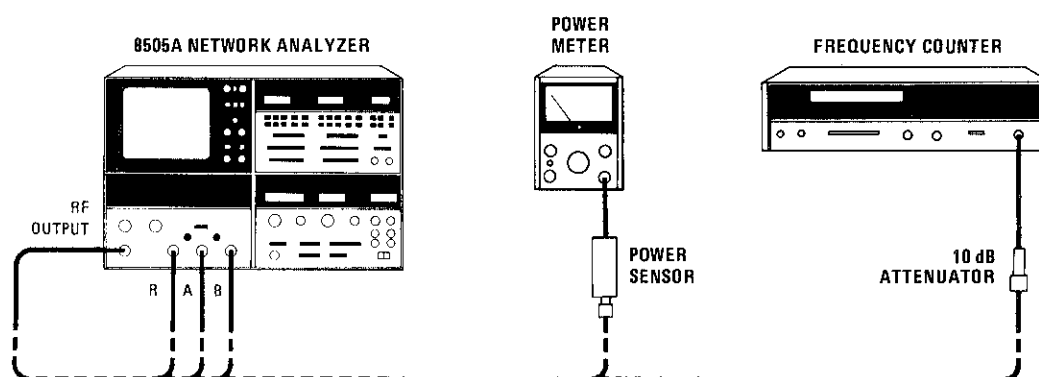

Figure B3-8. RF Source/Converter Troubleshooting Test Setup
- a. Set 8505A LINE switch to ON and set critical switch settings as designated for Figure B3-8.